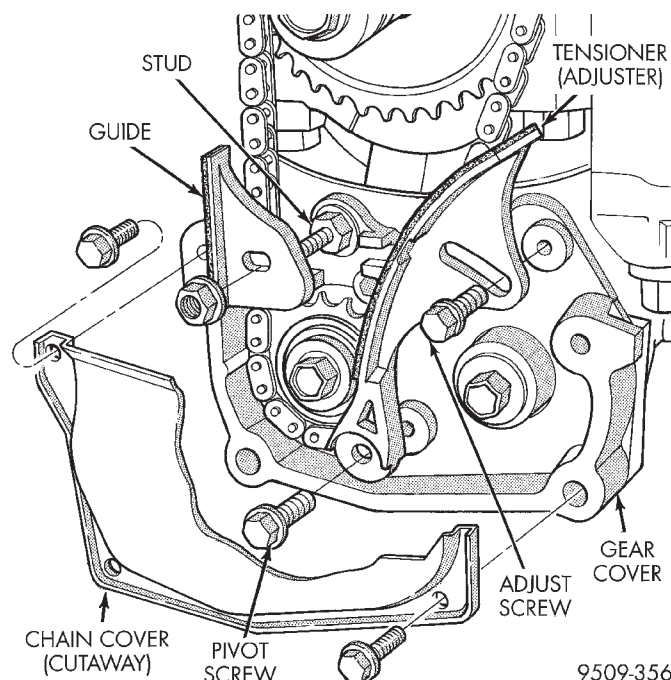

Fig. 34 Chain Cover, Guide and Tensioner
- (1) Remove chain cover, guide and tensioner (Fig. 34). Also see Carrier Assembly Removal for service procedures requiring only temporary relocation of assembly.
(2) Remove gear cover retaining stud (double ended to also retain chain guide). Remove cover and balance shaft gears (Fig. 34).